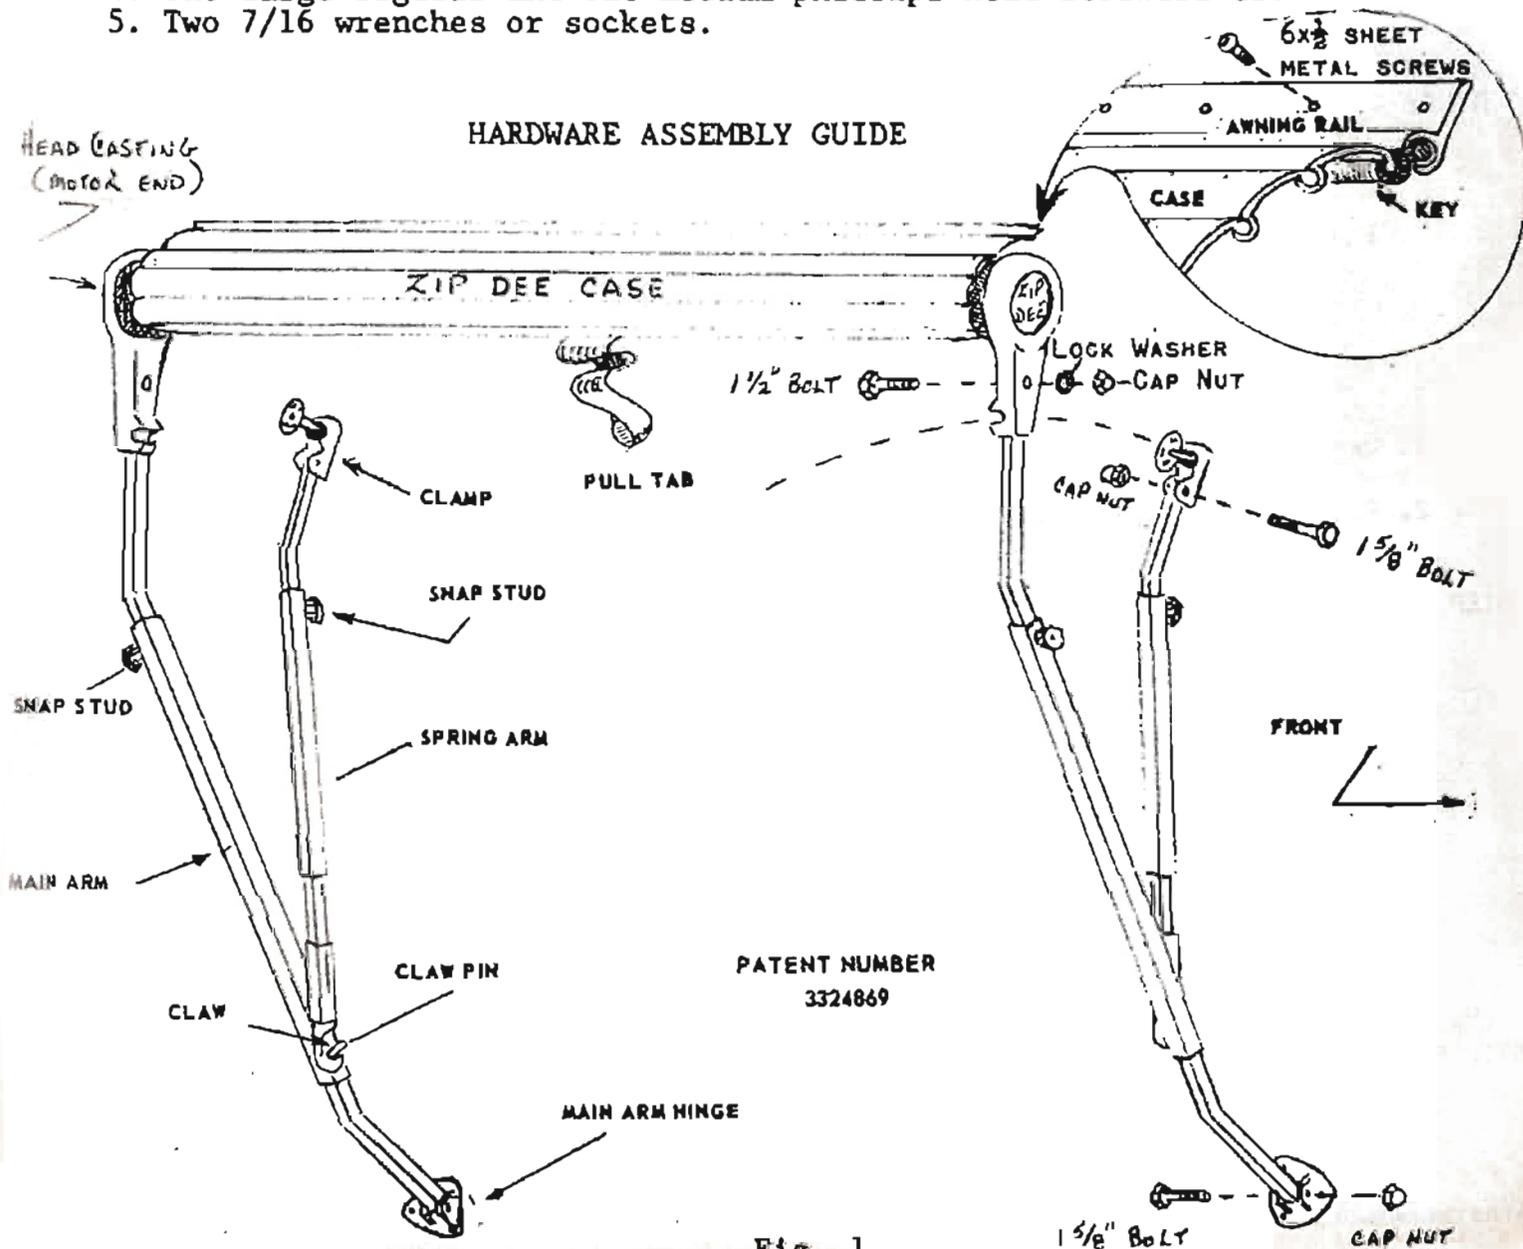

Fig. 1
- STEP 1. UNPACK AND ASSEMBLE HARDWARE AS SHOWN IN FIG. 1.
Close the awning following instructions in the Owners Manual. Be sure to release and extend the spring arms in order to place the claws on the claw pins (as shown in Fig. 1.). This must be done every time the awning is rolled up. The scissor-like action guides the main arms upward to line up with the clamps.